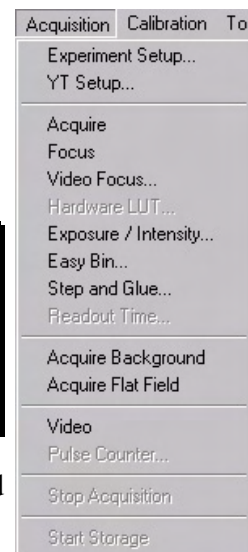

Figure 44. Acquisition menu
2. Select **Focus** from the **Acquisition** menu (Figure 44) to begin collecting data. An acquisition can also be started by clicking on the **Focus** button in the Experiment Setup dialog box or by clicking on the **Focus** button on the **Custom Toolbar**. Data will be continuously acquired and displayed.